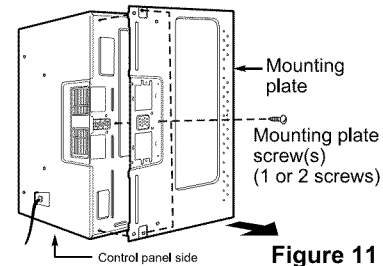

Figure 11
3. Remove mounting plate screw(s) (1 or 2 screws) from the mounting plate as shown and discard. See Figure 11.